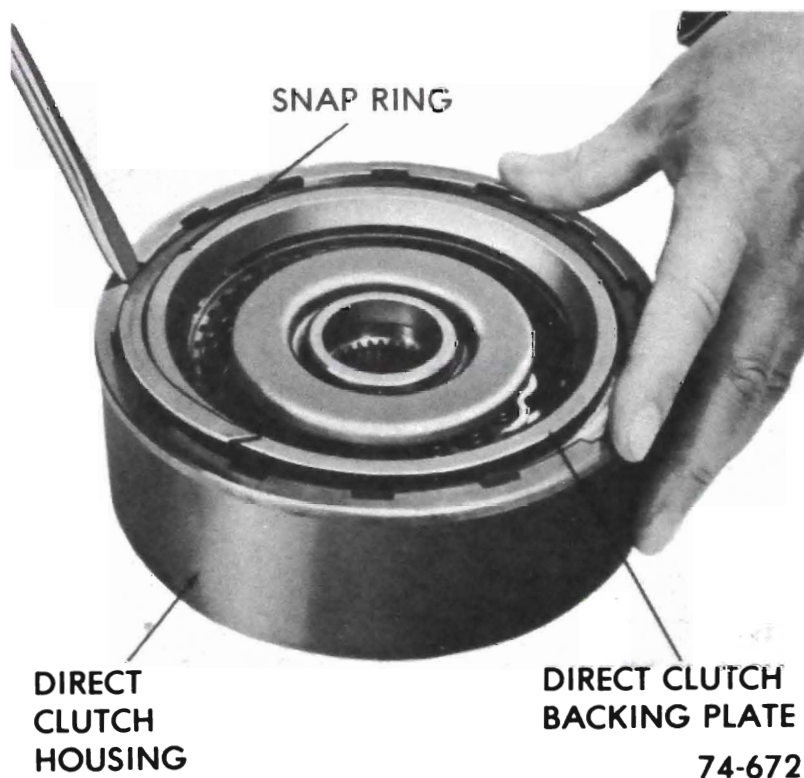

Figure 76-197
3. Turn unit over and remove backing plate to clutch housing snap ring. See Figure 76-197.
10. Install the backing plate retaining snap ring. See Figure 76-197.